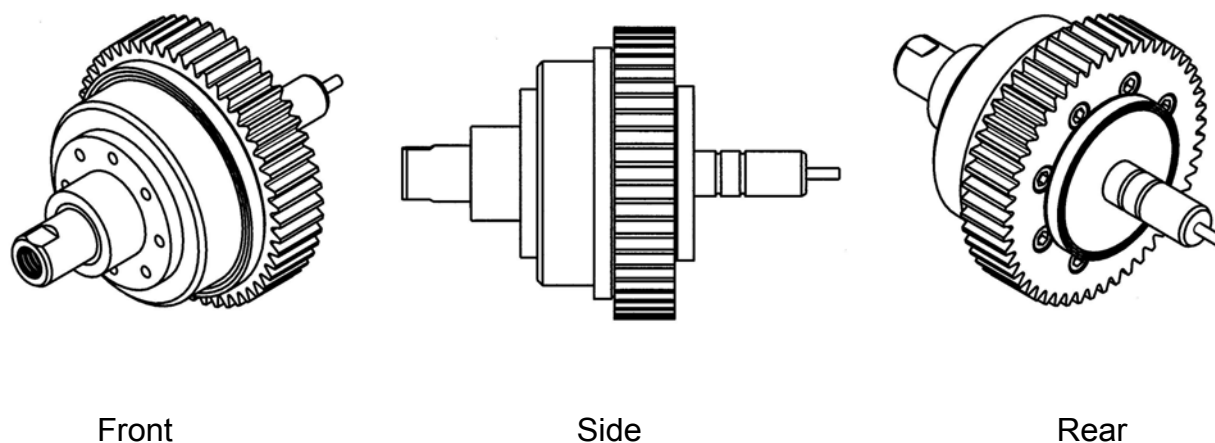

Figure 4-14 Finished gripper cylinder assembly
1. Install bronze bushing (9) in nose of cylinder head (11) (press fit).
2. Install 3 piece rod seal (10) in nose of cylinder head (11).
3. Install O-ring (13) in groove of cylinder head (11).
4. Install 3 piece piston seal (15) in groove of piston (14).
5. Lightly grease bore of gripper cylinder (16). Insert piston/rod (14) into cylinder barrel
6. Lightly grease piston rod (14) at chamfer near the thread relief, outside chamfer of cylinder barrel (16) and I.D. of bearing (9) with Lubriplate grease. Insert the piston/rod and gripper cylinder barrel assembly with a twisting motion into the cylinder head (11) seating the cylinder barrel in the cylinder head. Slip bearing (12) over the back end of the cylinder head (11). Install dowel pins (54) into gear (18). Slide the gear over the cylinder barrel (16) and secure using fasteners (20). Torque to 30 inch lbs. Push bearing onto hub of gear seating it against the face of the gear.
7. Slip shim (55) onto end of gripper cylinder. Apply Loctite 609 to I.D. of bearing (19) and slip onto the end of cylinder barrel (16). The gripper cylinder assembly should appear as shown in Figure 4-14.